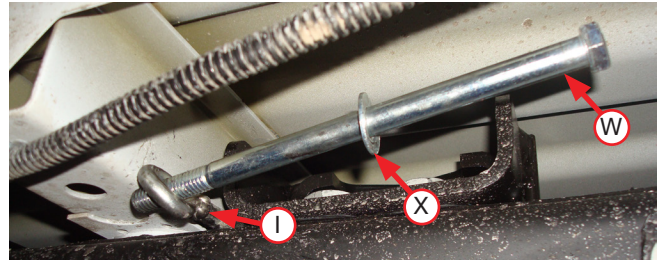

Fig. 23
10. Insert the 3/8" Hex cap screw (W) through a 3/8" flat washer (X), then all the way through the eye of the L-bolt (Fig. 23).